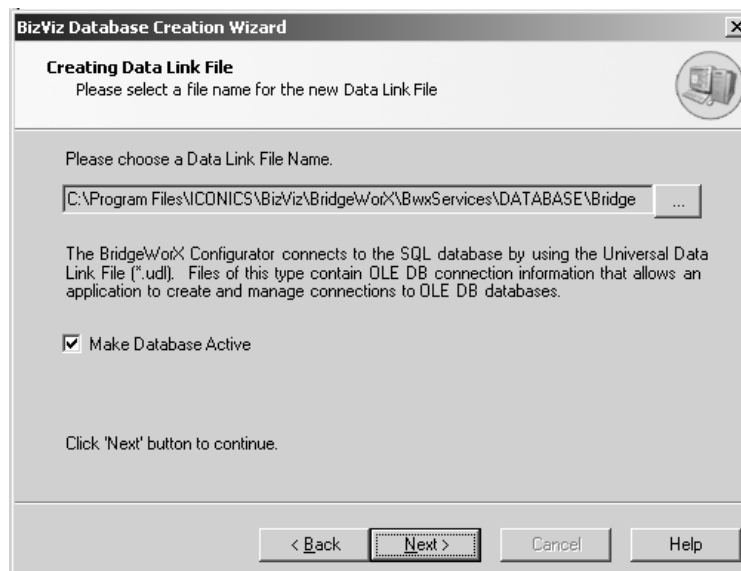

Figure L2.8 - UDL File Creation
8. The wizard then creates a data link file to the database at the path shown. Make sure that **Make Database Active** option is checked, as shown in Figure L2.8; click on the **Next** button to continue.